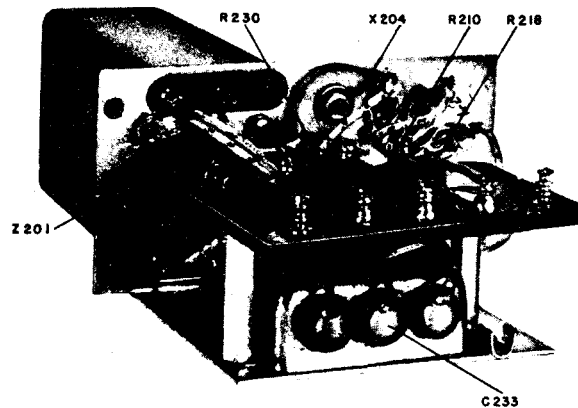

Figure 2-18 First I-F Assembly
*d. I-F AMPLIFIER CIRCUIT.* (See figures 2-18, 2-19, 2-20, 2-21.)—Two type 12SK7 triple-grid amplifier tubes are utilized as intermediate-frequency amplifiers. The output of the converter tube V202 is fed into the grid of the first intermediate-frequency amplifier tube V204 through the interstage transformer Z201. The plate of the first i-f amplifier tube V204 is coupled to the grid of the second i-f amplifier tube V205 by the second interstage transformer Z202. The plate of the second i-f amplifier tube is coupled through the third i-f transformer to the diode detector of the 12SQ7.